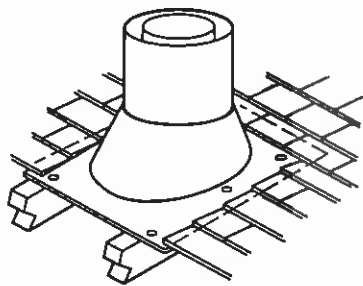

Figure 28
**Step 7.** Secure flashing by nailing along the perimeter into roof using 8d nails. If shingled roof, slide upper end and sides of roof flashing under shingles (trim if necessary), seal the top and both sides of the flashing to the roof with roof caulking. Cover nail heads with roof caulking (Figure 28).